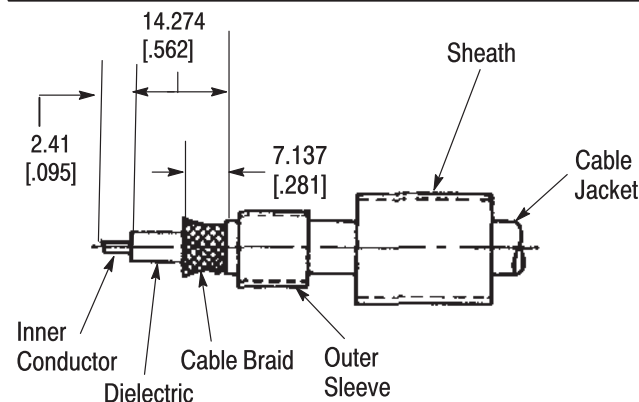

Figure 3
2. Strip the cable according to the dimension in Figure 3.